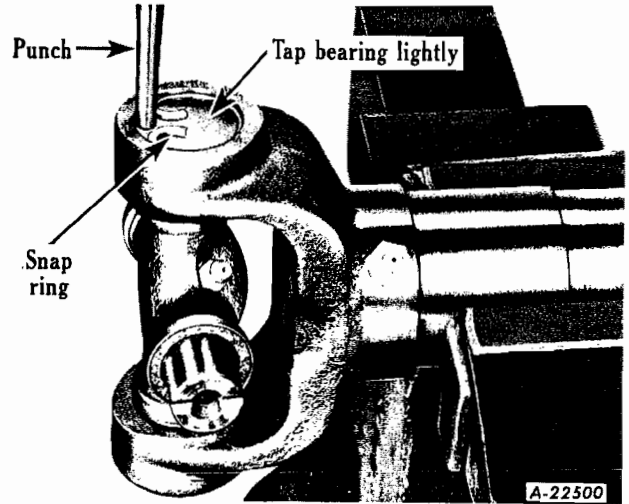

Fig. 15
- c. Using a small punch, tap end of needle bearing assembly to loosen snap ring. Move needle bearing only enough to break bearing assembly away from snap ring (Fig. 15).